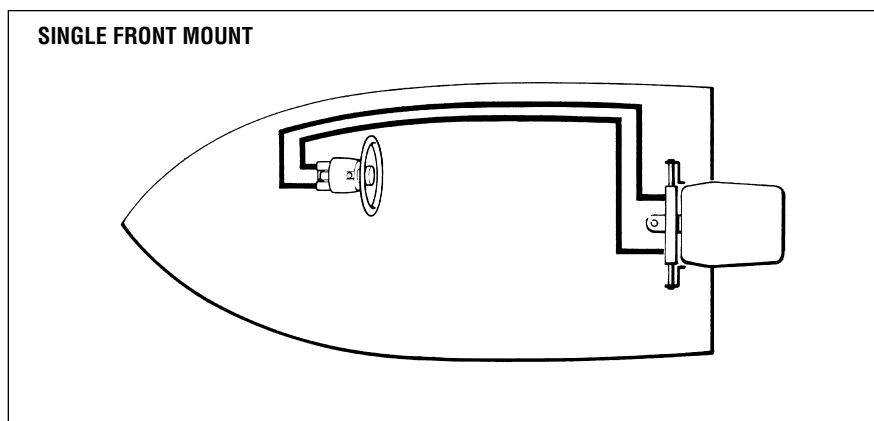

Figure 11.
- See figure 11 to locate your plumbing diagram.